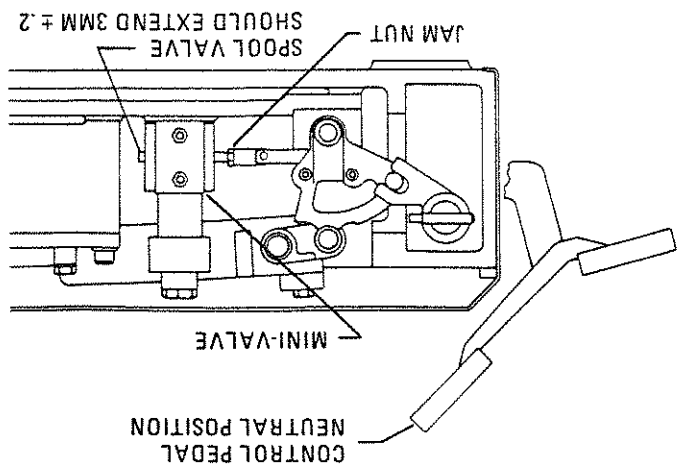

Figure 1-31.
2. With the control pedal in the neutral position, the back side of the spool valve should extend past the mini-valve body 3mm ± .2. See figure 1-31.